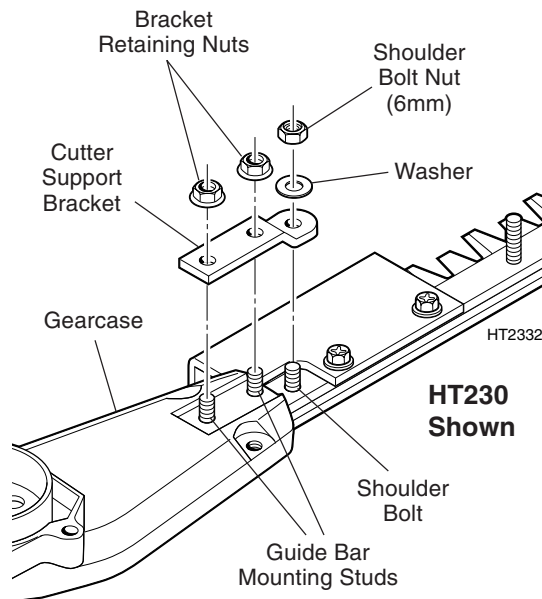

Figure 12. Removing the cutter support bracket.
STEP 1. With the gearcase oriented right-side up, remove the cutter support bracket (Figure 12):